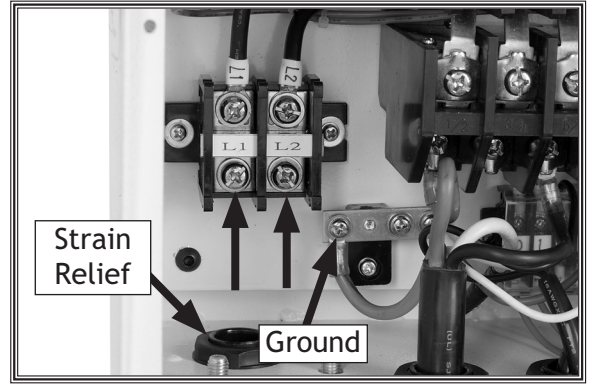

Figure 18. W1772 control panel wiring.
2. Feed the power wires through the strain relief on the bottom of the control panel, tighten the strain relief, connect the cord to the terminals shown in **Figure 18** or **19**, and reinstall the control panel face plate.